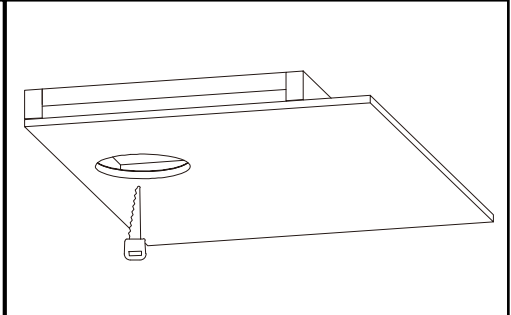

Figure 12
4. Make hole in drywall the same size as needed for fixture. (Fig.12)